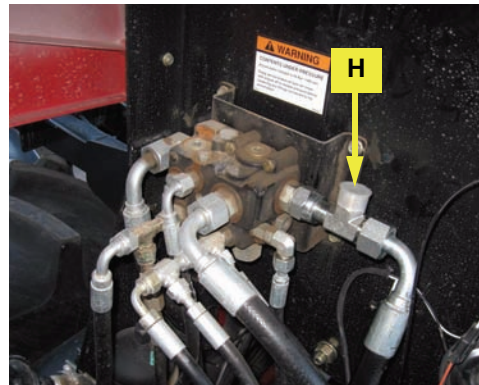

Figure 3b: Pressure line fitting installed
- b. Install the run-tee **H** then reconnect the pressure line to the end of it (Figure 3b).